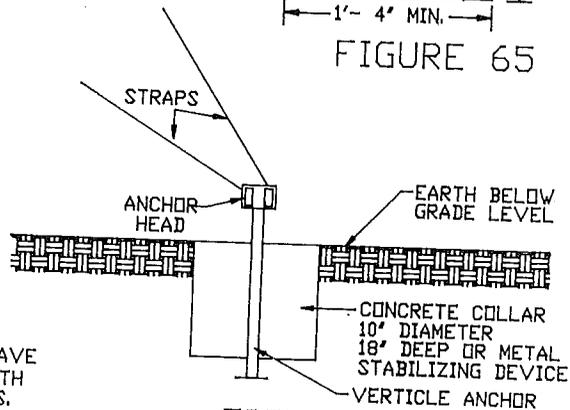

FIGURE 63
2. The ground anchor should be installed at the same angle as the diagonal tie so that the pulling force on the anchor is in line with the ties. Should this not be possible, a concrete collar shall be poured around the anchor shaft or a metal stabilizing device driven in front of the anchors director of pull. The collar must be 10 inches in diameter and 18 inches deep. See Figure 63. As an alternate to the concrete collar, a stabilizing device may be installed on the anchor. See Figure 64.
3. IF ANCHOR IS INSERTED VERTICALLY A CONCRETE COLLAR OR STABILIZING DEVICE MUST BE USED AT THE GROUND LINE. SEE FIG. 63 & 64.
4. EACH OF THE STRAPS AND CONNECTIONS TO THE I-BEAM MUST HAVE AN ULTIMATE STRENGTH OF 4725 LBS. SEE FIG. 63 & 64.